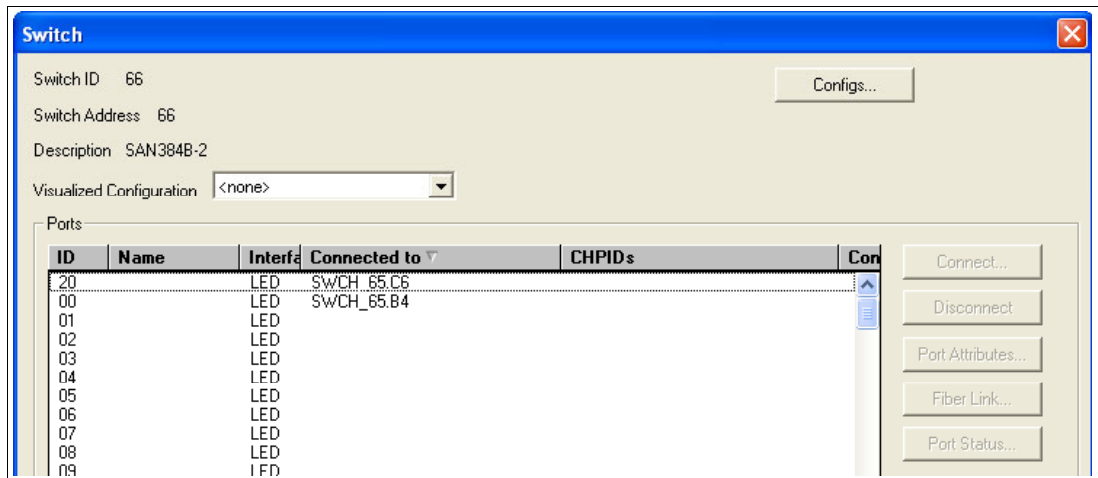

Figure 7-19 HCM Connect both ISL ports
14. Perform the same action for Switch #66 port 20 and Switch #65 port C6. Refer to Figure 7-19.